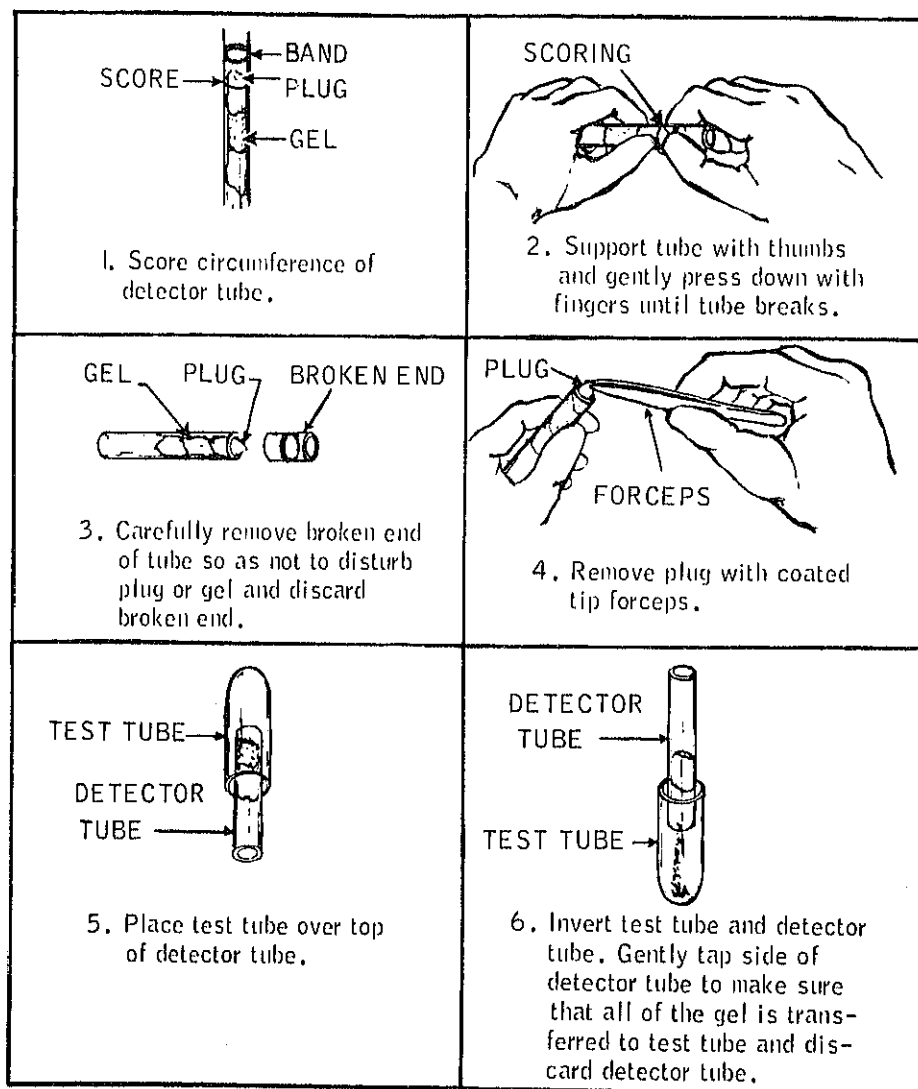

Figure 3-5 (U). Transferring silica gel from detector tube to test tube (U).
e. Some CW-agents may undergo chemical change or desorb from silica gel tubes by the time that they are tested. Test results indicate CW-agents present at the time of testing, but not necessarily those present at the time of sampling. For example, phosgene oxime (CX) decomposes rapidly to form cyanide and phosgene. Tests may be negative for phosgene oxime but positive for cyanide and phosgene.
f. Mixtures of toxic vapors consisting of both persistent and nonpersistent agent adsorbed on unimpregnated silica gel (WHITE BAND TUBE) can sometimes be handled in a manner similar to the following example of a mixture of CK and HD in a BLUE BAND TUBE. If a BLUE BAND TUBE indicates a positive test for CK but the presence of a persistent agent (HD) is suspected:
- (1) Transfer silica gel from an exposed WHITE BAND TUBE to test a tube (fig. 3-5).
- (2) Warm the test tube for 1 to 2 minutes to desorb nonpersistent agent (CK).
- (3) Add 2 drops of REAGENT 18 and heat for an additional 2 minutes.
- (4) If no color develops, omit (5) through (7) below.
- (5) If yellow or orange color develops, CK is still present (see TEST 2).
- (6) Using another exposed WHITE BAND TUBE, perform steps (1), (2), and (3) again but heat tube 3 to 5 minutes.
- (7) If test is still yellow or orange, separation cannot be performed.
- (8) If no color develops, add 1 drop of REAGENT 12 and observe color change. See TEST 4 for interpretation of color change.